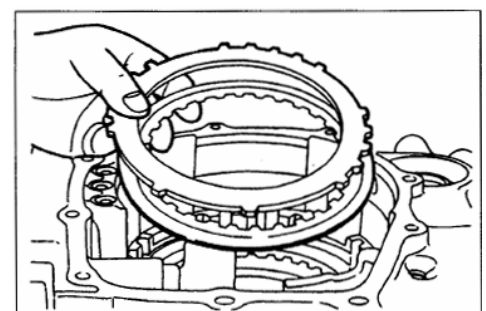

Fig 11A-43
- (50) Remove the snap ring. See Fig.11A-44.